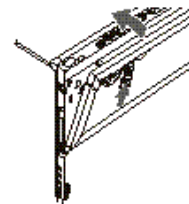

Figure 5-2 Docking the Notebook in the Detachable Bay
4. Push the Detachable Bay toward the bottom of the notebook until they click together and the Docking Latches on the Detachable Bay slip into the Detachable Bay Locking Indentations on the rear panel of your notebook. (See Figure 5-2.)